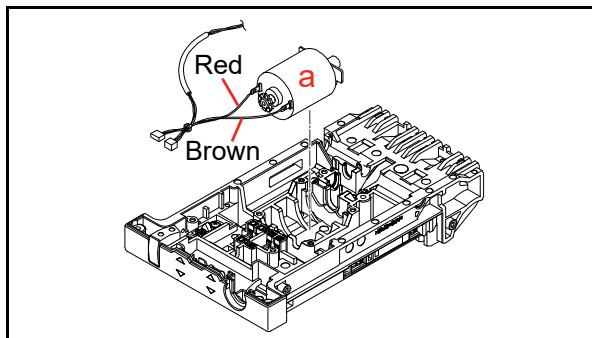

**Figure 4-36 TR Worm Wheel (Twin) Removal (RT Frame Unit)**
1. Remove the Wheel Assy. (Figure 4-36 a).
2. Remove the two (2) Bearings (Figure 4-36 b1 & b2) from the TR Worm Wheel (Twin) (Figure 4-36 c).